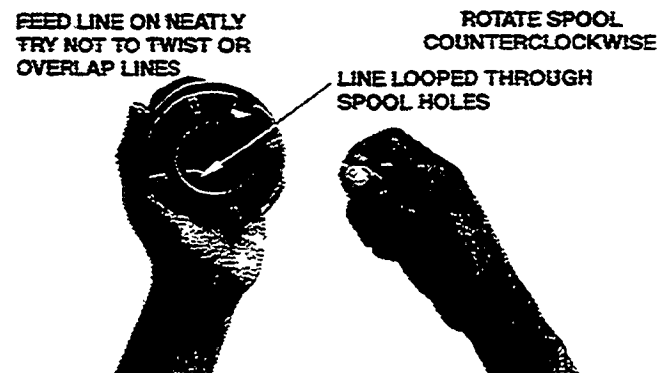

Figure 19
- Loop line through holes in spool and make certain that both lines are even (Figure 19).
- Hold spool as shown (Figure 19) and feed line on neatly by rotating the spool counterclockwise.